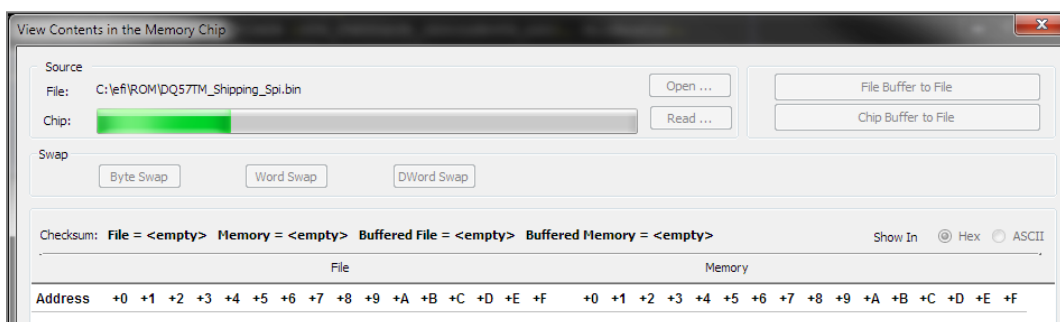
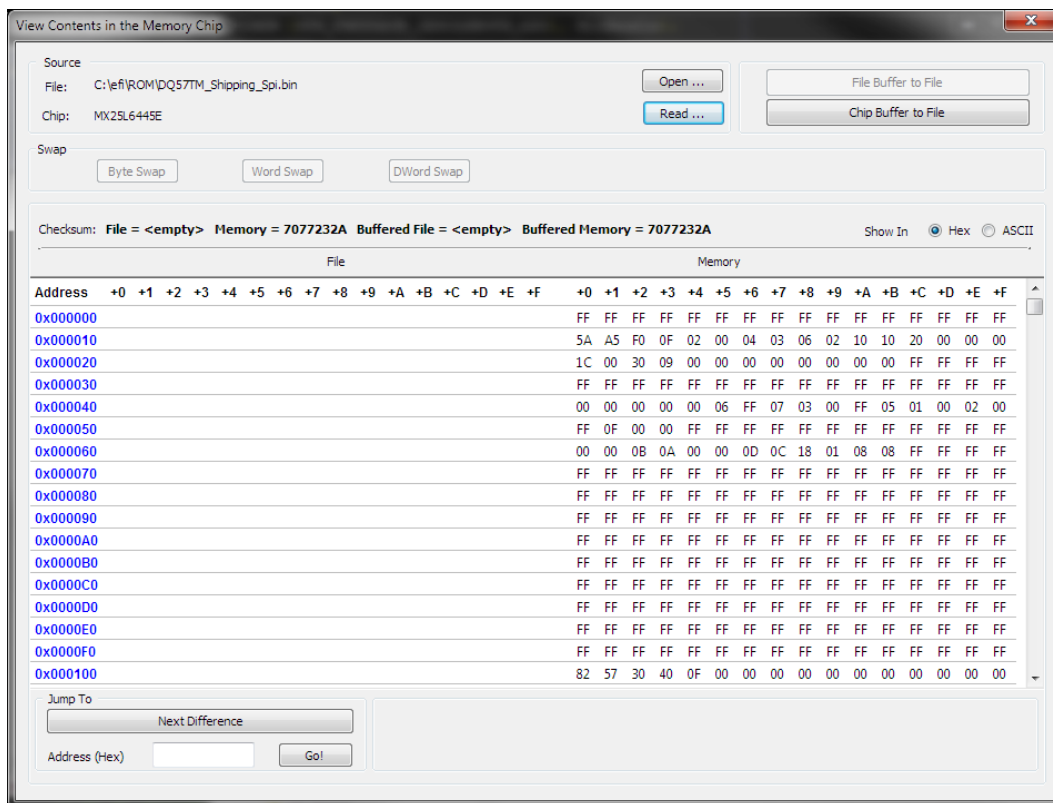

Figure 3-9. Progress bar.
Figure 3-10. Read is completed.
6. Click the **Read** button to read the contents of the flash image into memory. Dediprog immediately begins reading the contents of the flash image into a temporary memory location (see Figure 3-9). You will see a green progress bar indicating the status of the download. When the read operation is complete, Dediprog will display the contents of the file buffer (see Figure 3-10).